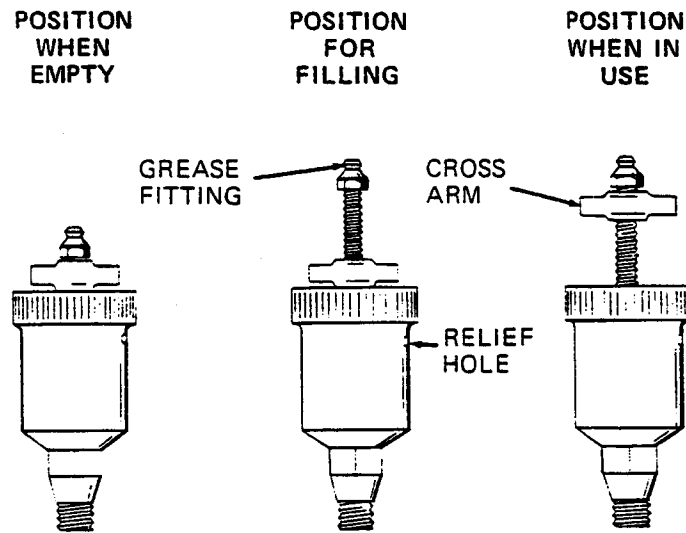

Figure 3. Automatic Lubricating Grease Cup
Before removing the seal assembly, turn the cross arm on the seal grease cup (24) clockwise until it rests against the cover (see figure 3). This will prevent the grease in the cup from escaping after the seal is removed.
Before starting the pump, fill the grease cup through the grease fitting with a good grade of No. 2 pressure gun grease until grease escapes from the relief hole. Turn the grease cup arm counterclockwise until it is at the top of the stem; this will release the spring to apply grease to the seal (see figure 3).